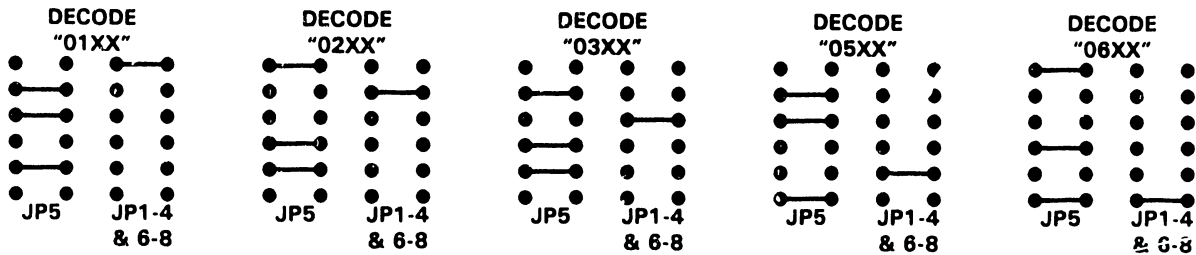

Figure C-10. 210-8616 Intelligent Serial I/O Adapter Connector and Jumper Locations
- a. Check the jumpers (figure C-10) on the ISIO device adapter and install the adapter in Motherboard slot #4. (Workstation 0 must be connected to port #0 of this DA. This is a microcode convention and MUST be adhered to.) Insert the new adapter in the board guide and lower it to the Motherboard connector.